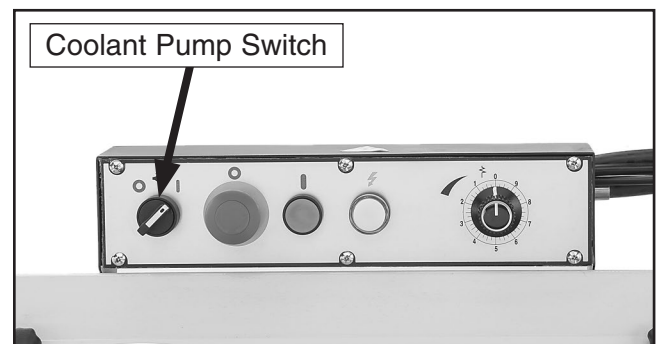

Figure 42. Location of coolant pump switch.
5. Turn coolant pump switch **ON** (see **Figure 42**) before starting cut.